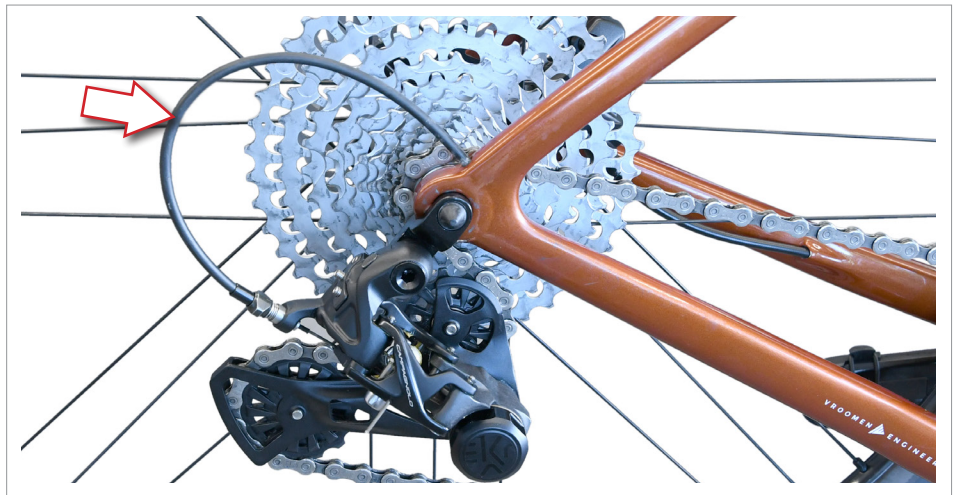

Fig.13
- If the cable is damaged, please replace it before riding your bicycle. If the casing is too short, rear derailleur operation will be affected (Fig. 13).